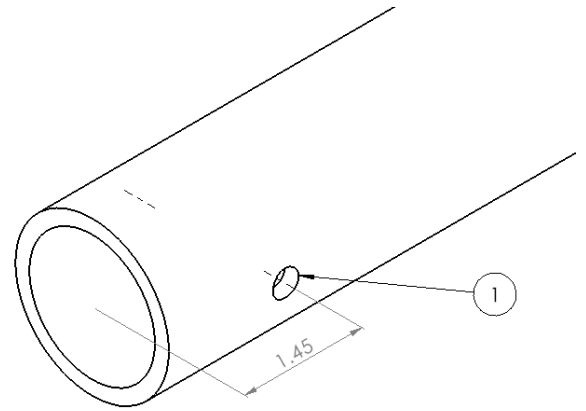

Figure 4.4
Remove the 90-degree corner from the side arm and place it inside the cross tube on both ends. Mark where the mounting holes on the corner are on the cross-tube, they should be approximately 1-1/2" from either end. Drill the mounting holes (1) in the cross-tube using a 5/16" drill bit. (Figure 4.4)